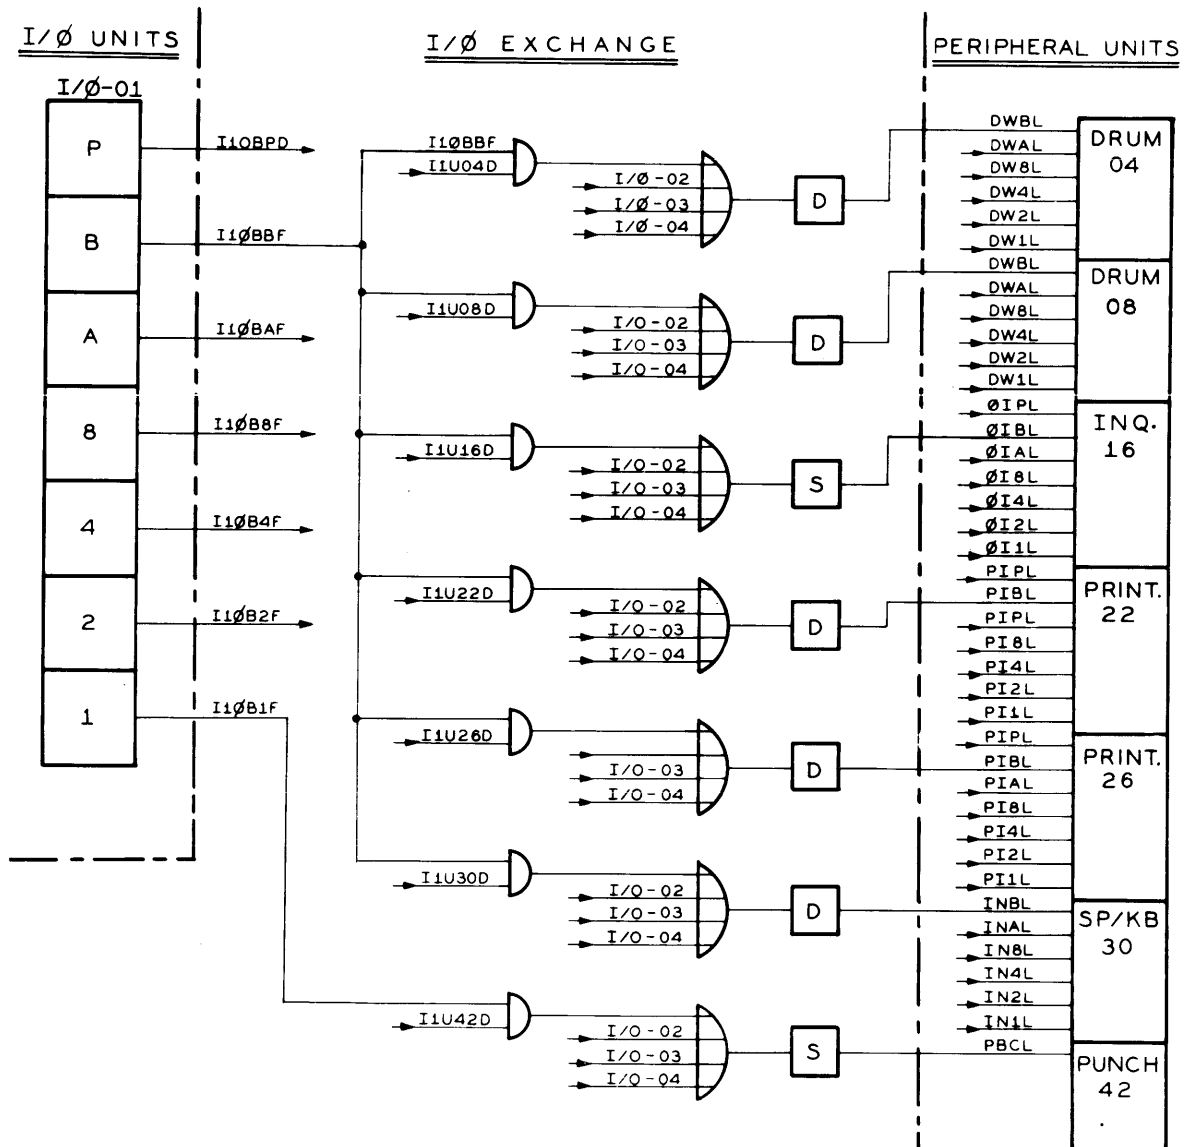

FIGURE 7.7-5 NON-TAPE INFORMATION OUTPUT LOGIC
Figure 7.7-5 illustrates that all Non-Tape information comes from a seven (7) bit Character Register in the I/O, OBF thru OBBF and OBRD. All seven bits from OB Register do not go to every Peripheral Unit. The Peripheral Unit and its required information are listed below: